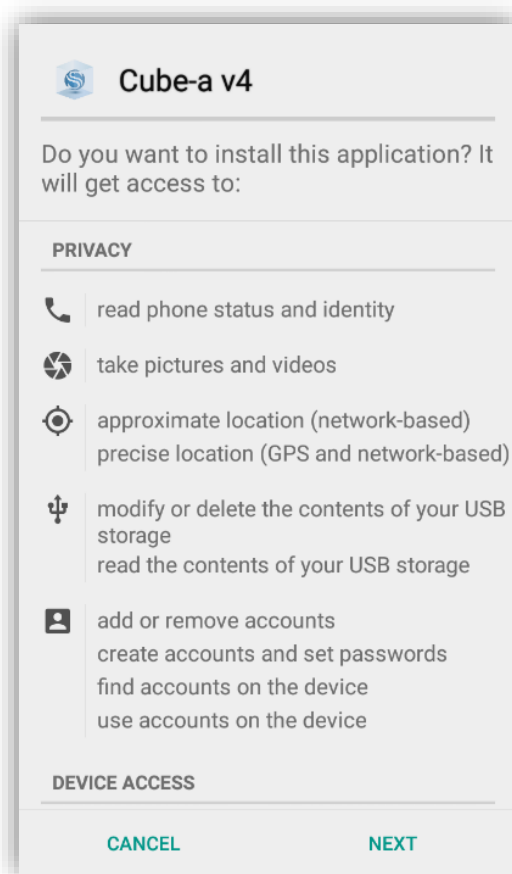

Figure 2.1
2. Please find the **Cube-a** installation package (*.apk) in the "Files" of the Android device. Click the **Cube-a** installation package, there will pop-up the installation page. Then click "Install" to install the **Cube-a** software, if the installation is successful, there will be the prompt page as shown in Figure 2.1.